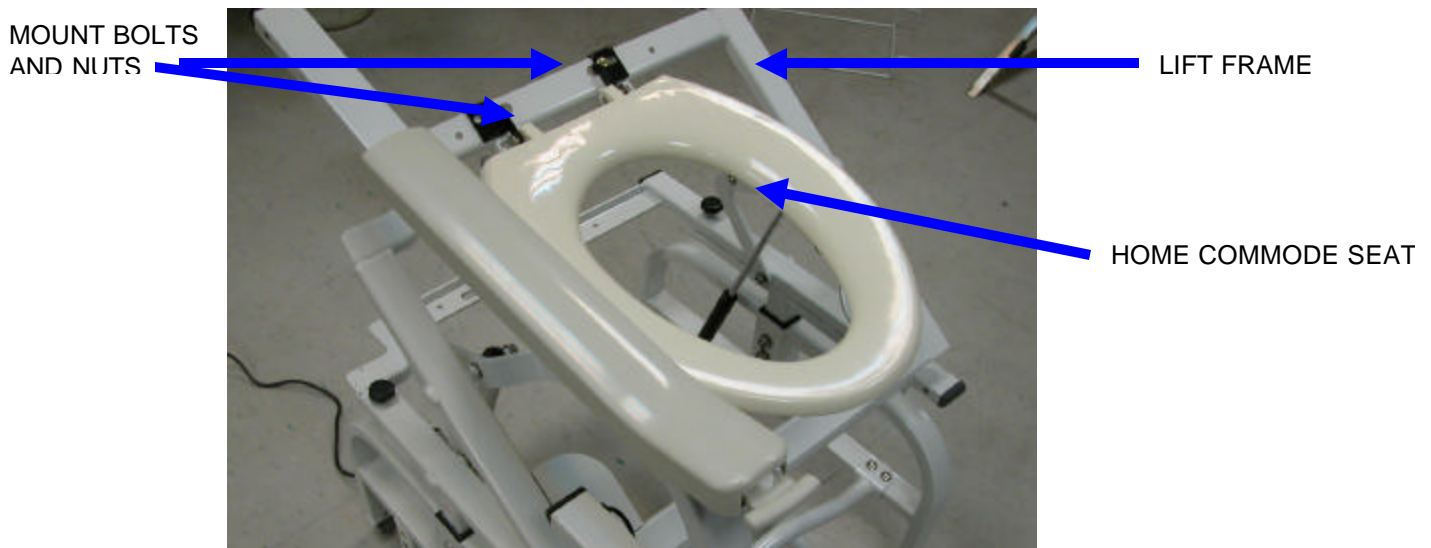

Figure M-5. Home Commode Seat Installation
- b. Remove the mount nuts and the mount bolts from the back of the lift frame and the home commode seat. See Figure M-5.